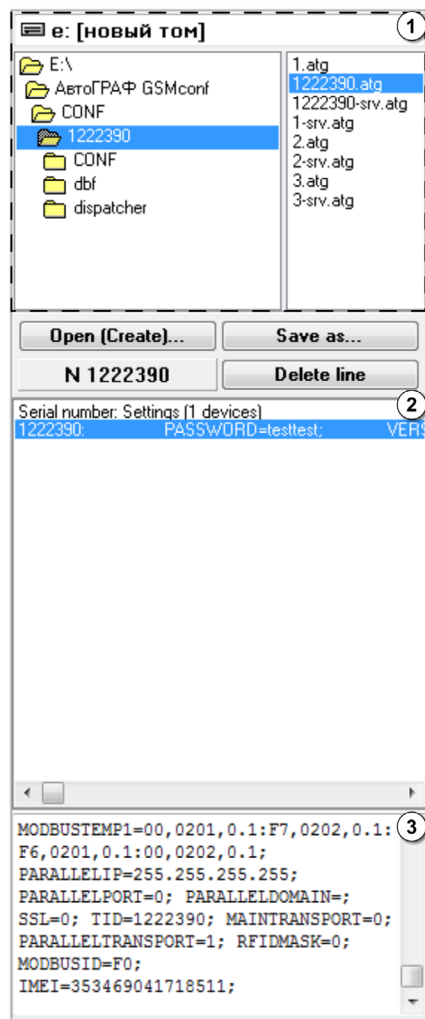

Fig.8. ATG browser.
In the upper part of the browser (see Fig.8, item 1), select the required file with settings. Double-click opens the file. Alternatively, use the "Open (create)" button to open the .atg file.
The contents of the opened .atg file is displayed in section 2 (see Fig.8). File may contain the settings of several devices. Settings of each device appear in a different line following the serial number of a relevant AutoGRAPH device.
Select the line to review the settings of required device. Its settings will appear in section 3 (see Fig.8).